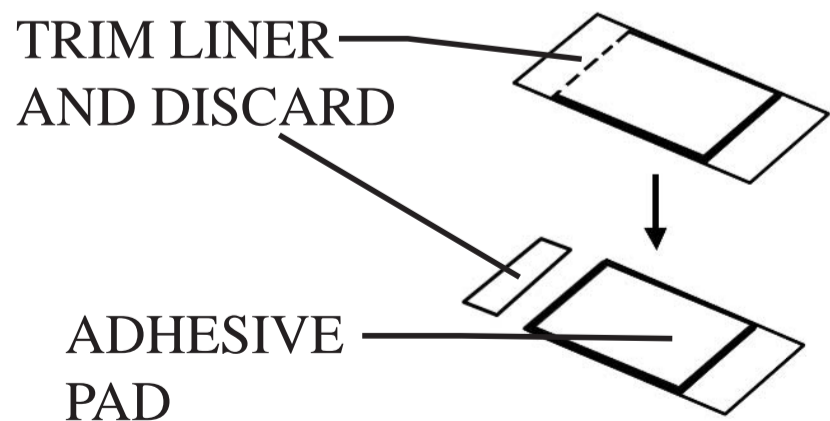

FIGURE 4
2. Trim one end of the 3M SEALANT TAPE as shown in Figure 4.